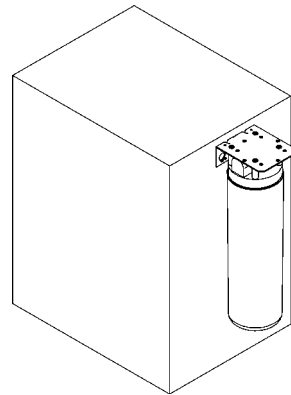

FIG. 9
**LPFEA MODEL:** Mount filter head assembly to side of chiller (See Figure 9). Make connection between filter and building supply line (3/8" O.D. tube not provided). Inlet port is marked on the chiller (1/4" O.D. copper tube). Install a 1/4" x 1/4" union (provided). Bend the copper tube (provided) at an appropriate length from the filter and connect to the union on the chiller. (See Figure 8).
5. **Install** the fountain. Remove access cover plate on underside of fountains and save the screws. Mount the fountain to the upper panel and the wall frame with (4) 5/16" x 1 3/4" (44mm) long bolts and nuts (provided). Install spacers on bottom two bolts. Tighten securely.